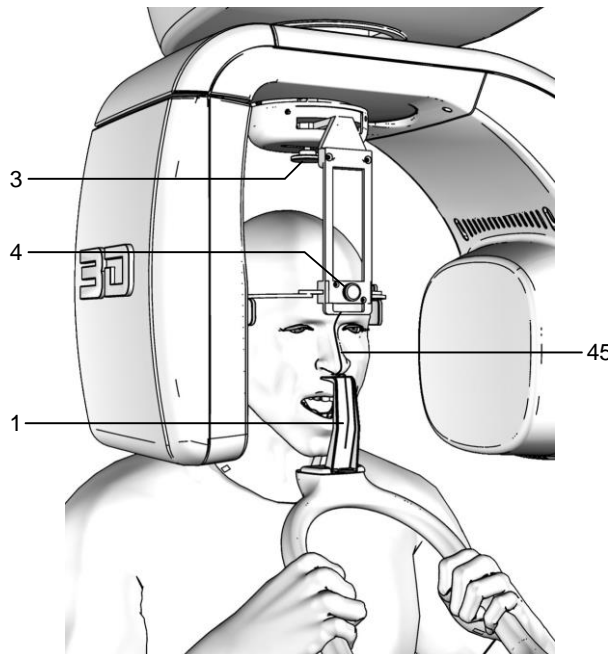

Figure 20 - Open mouth examination positioning
7. Place the temple clamp in contact with the patient's head by means of the appropriate knob (Figure 20).
8. Press the "Patient entry" key >O< (5) to confirm the parameters. The luminous centering devices switch off and the rotating arm goes to its examination start position. Once alignment has been completed, the following message will be displayed: